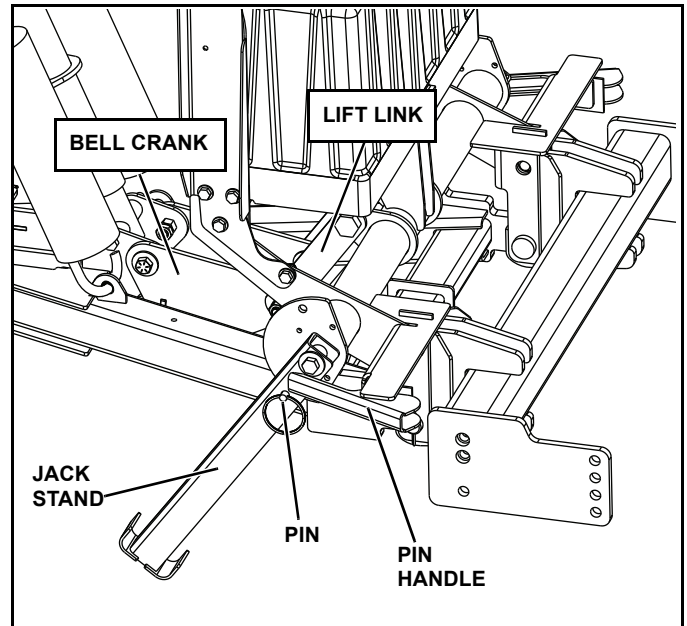

Figure 1-20
5. Pull ring on jackstand to disengage pin. Rotate jackstand towards raised position. Release pin and continue to rotate until jackstand is locked in raised position. Ensure pin is engaged in hole by rotating jackstand back and forth. (See Figure 1-20.)